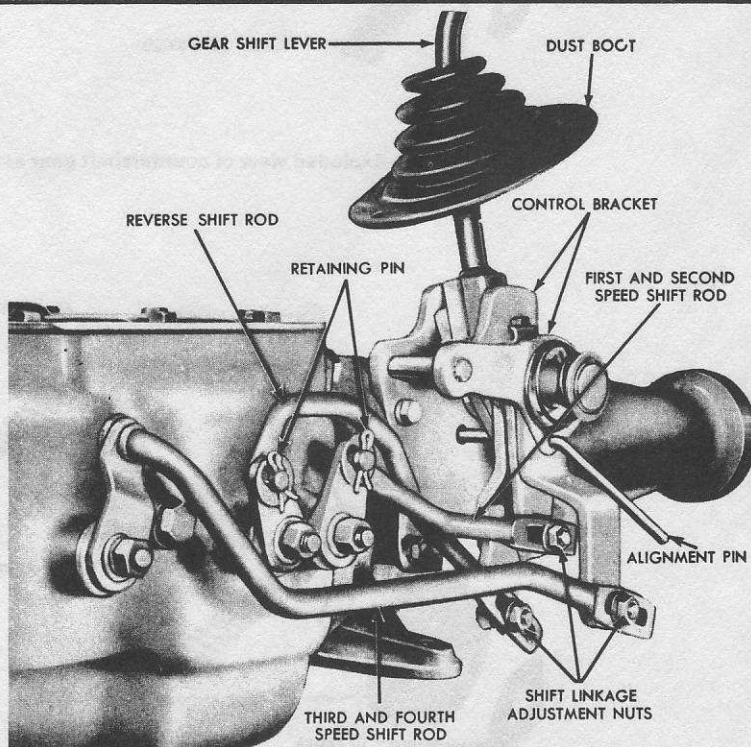

Fig. 6.34 Adjusting shift linkage (early 4-speed models) (Sec. 20)
- 2 Insert a piece of 0.25 in (6.3 mm) diameter rod through the control bracket and levers as shown in Fig. 6.34.